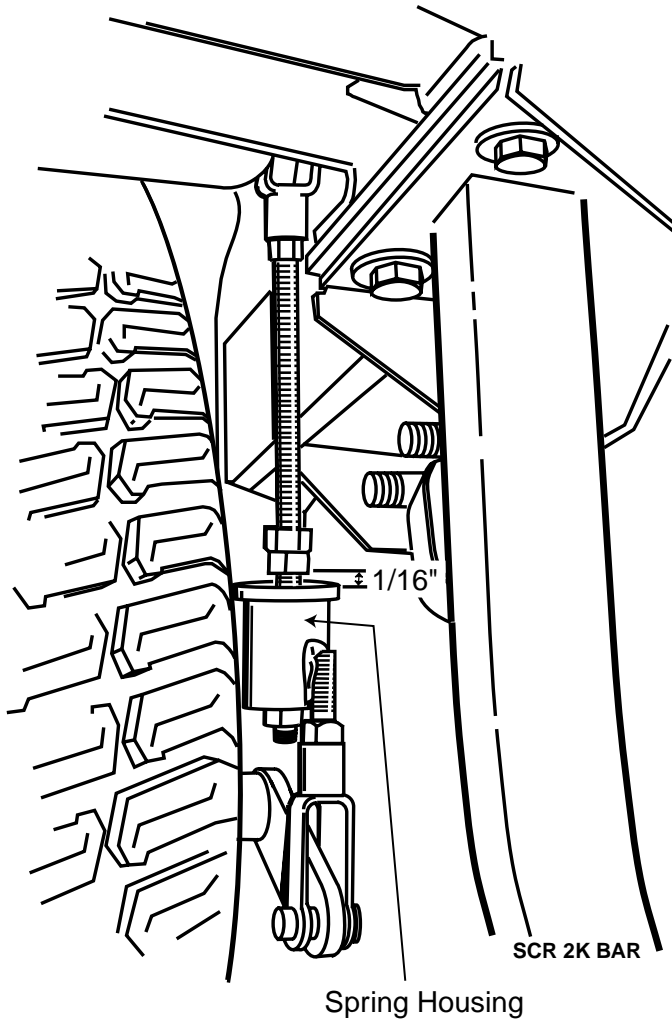

Figure 6-3 Brake Actuator Rod Assembly
3. With the brake in the engaged position, check the distance between the lower nut on the brake actuator rod and the spring housing. The distance should be approximately 1/16". (See Figure 6-3).
4. Turn the nut at the top of the brake connector link until the 1/16" measurement is achieved and tighten the jam nut at the connector link on the brake actuator rod. (See Figure 6-3).